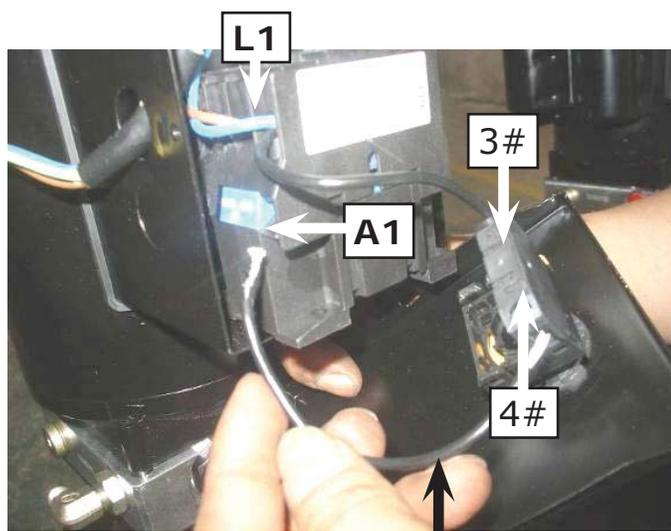
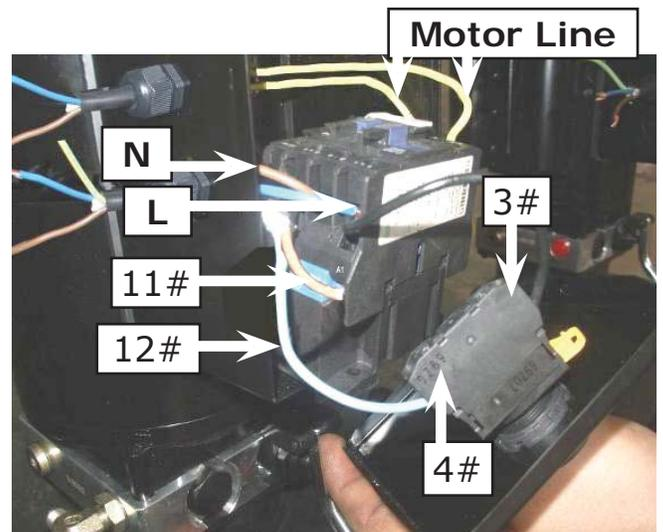

Fig. 35
Fig. 36
- Connect the Limit Switch: Remove the line of Connecting Terminal 4# of control button and A1 of AC contactor firstly (See Fig. 35), then connect wire 12# of Limit Switch with Terminal 4# of control button and connect wire 11# with terminals A1 of AC contactor respectively (See Fig. 36).